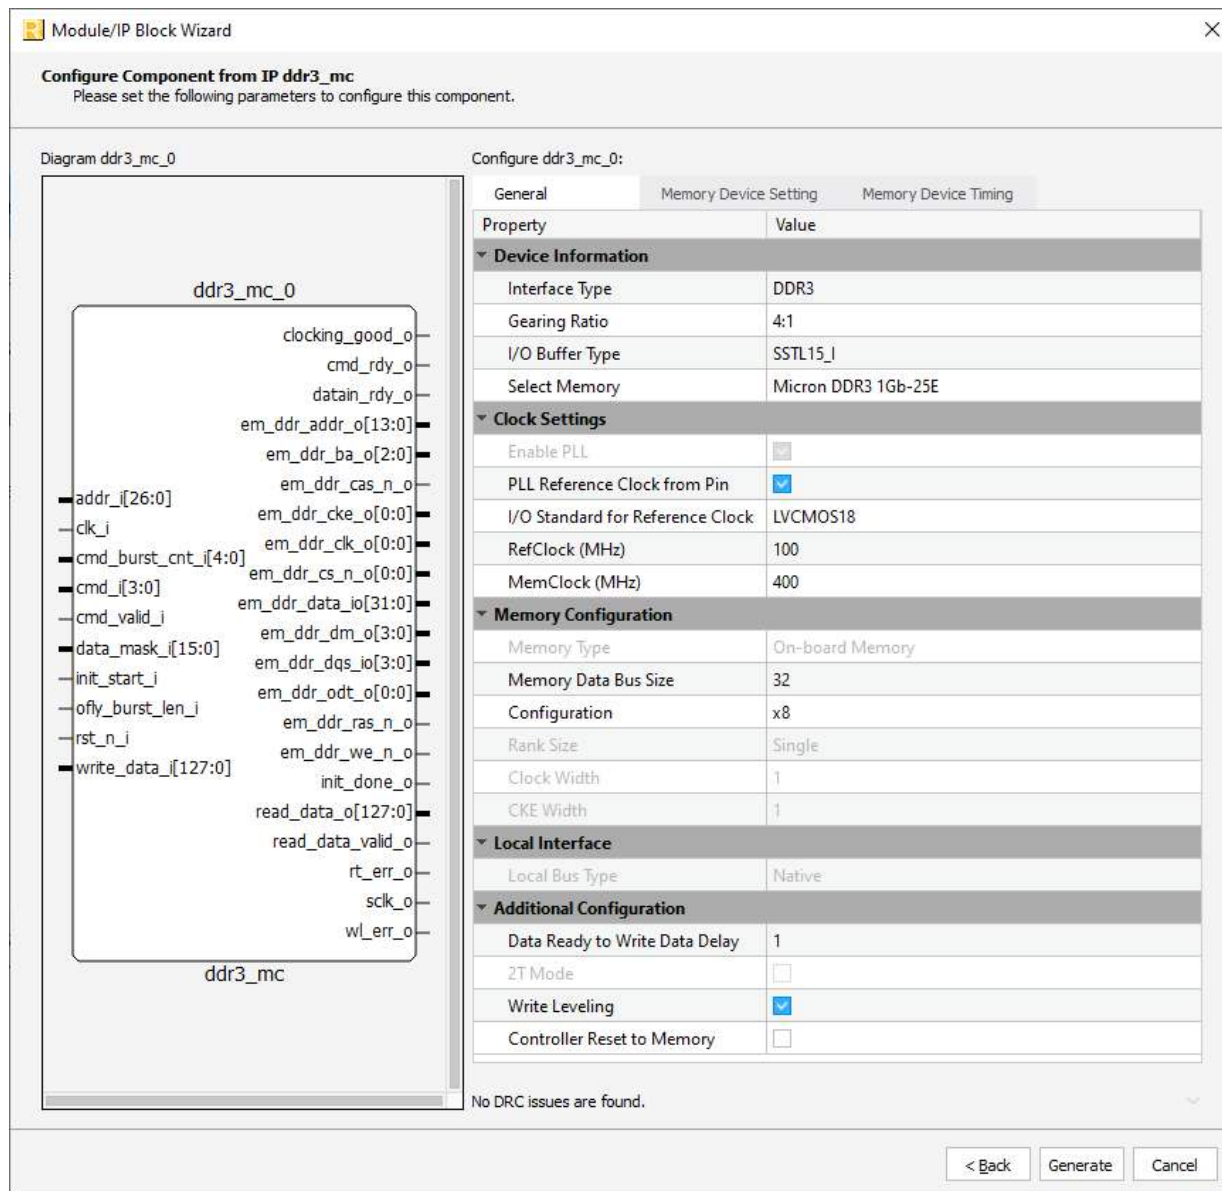

Figure 3.2. Module/IP Block Wizard of DDR3 SDRAM Controller IP Core
- In the module's dialog box of the **Module/IP Block Wizard** window, customize the selected DDR3 SDRAM Controller IP Core using drop-down menus and check boxes. As a sample configuration, see Figure 3.2. For configuration options, see the Attributes Summary section.